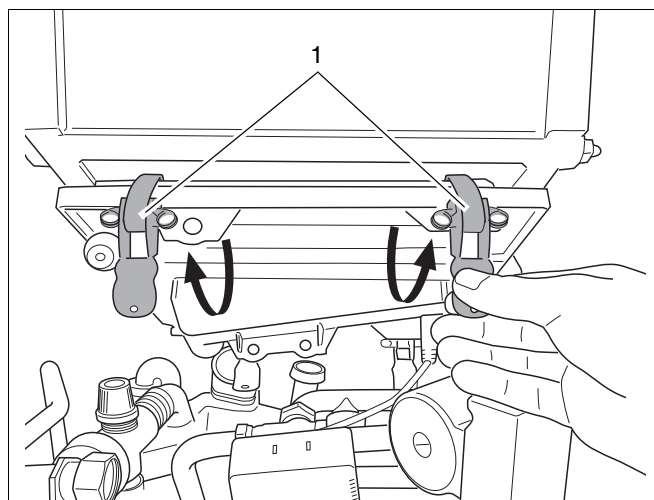

fig. 99 Opening the latches of the condensate collector
- Open the four latches of the condensate collector (see fig. 99, pos. 1).